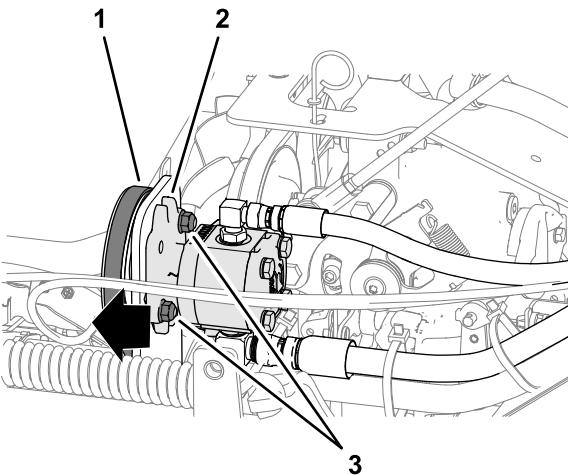

Figure 52
3. Loosen the 2 flange locknuts (3/8 inch) securing the auxiliary pump to the mounting bracket (Figure 52).
4. Slide the pump outward (Figure 52) in slots and torque the flange locknuts to 37 to 45 N·m (27 to 33 ft lb).